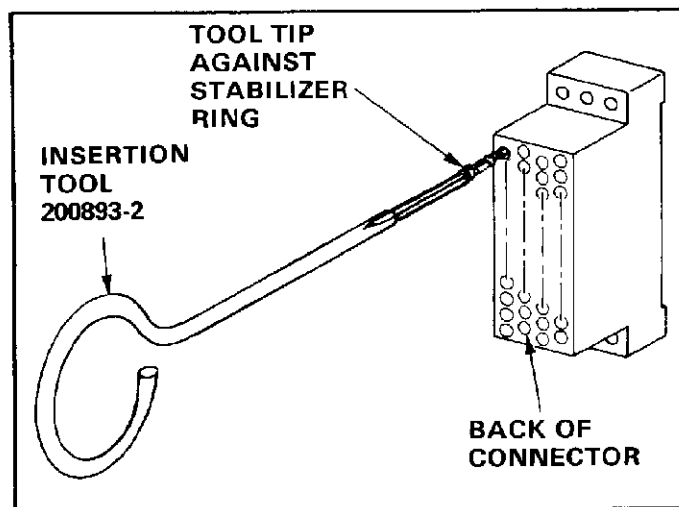

Fig. 3
2. Place the tip of the insertion tool against the shoulder of the stabilizing ring. The post will rest in the tool slot. See Figure 3.